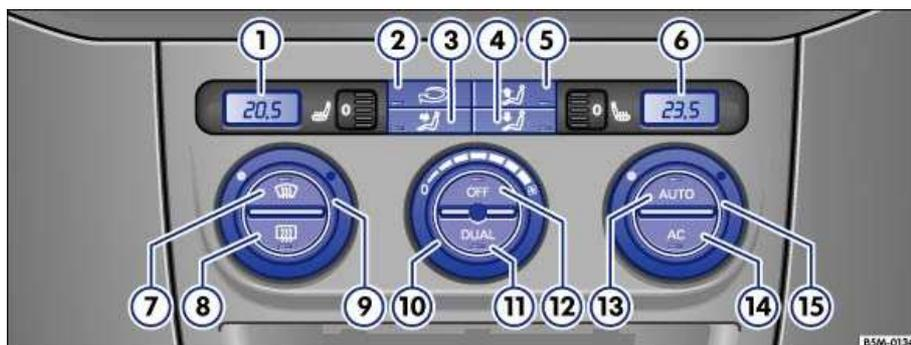

Fig. 105 Climatronic system controls in the center console.
- Press buttons (3), (4) or (5) or turn the fan speed control (10) for the desired settings ⇒ Fig. 105. The indicator light in the **AUTO** button will go out.